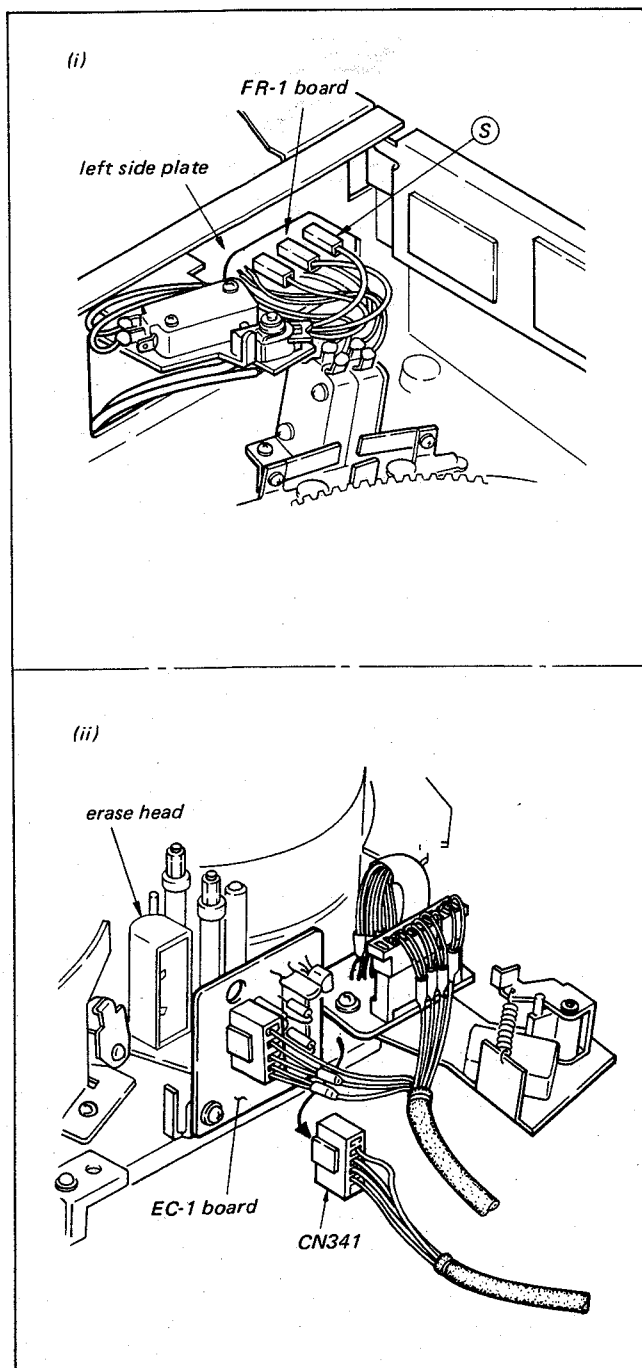

Fig. 1-4. To stop the tape end sensor circuit
Remove the connector CN341 on the EC-1 board on the Erase Head Base and remove the connector ⑤ on the FR-1 board at the back of the left side plate as shown in Fig. 1-4.
Remove the connector CN341 on the EC-1 board on the Erase Head Base as shown in Fig. 1-4.